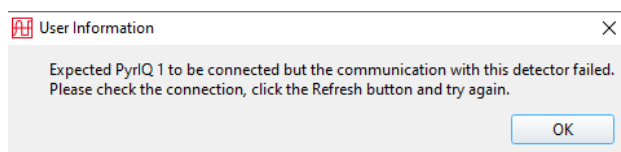

Fig. 25 Message when connection to PyriQ Detector 1 is lost before DAQ
- If a detector is disconnected after being recognized during the initialization phase, pressing the Start button will prompt the software to display the error message shown in Fig. 25.